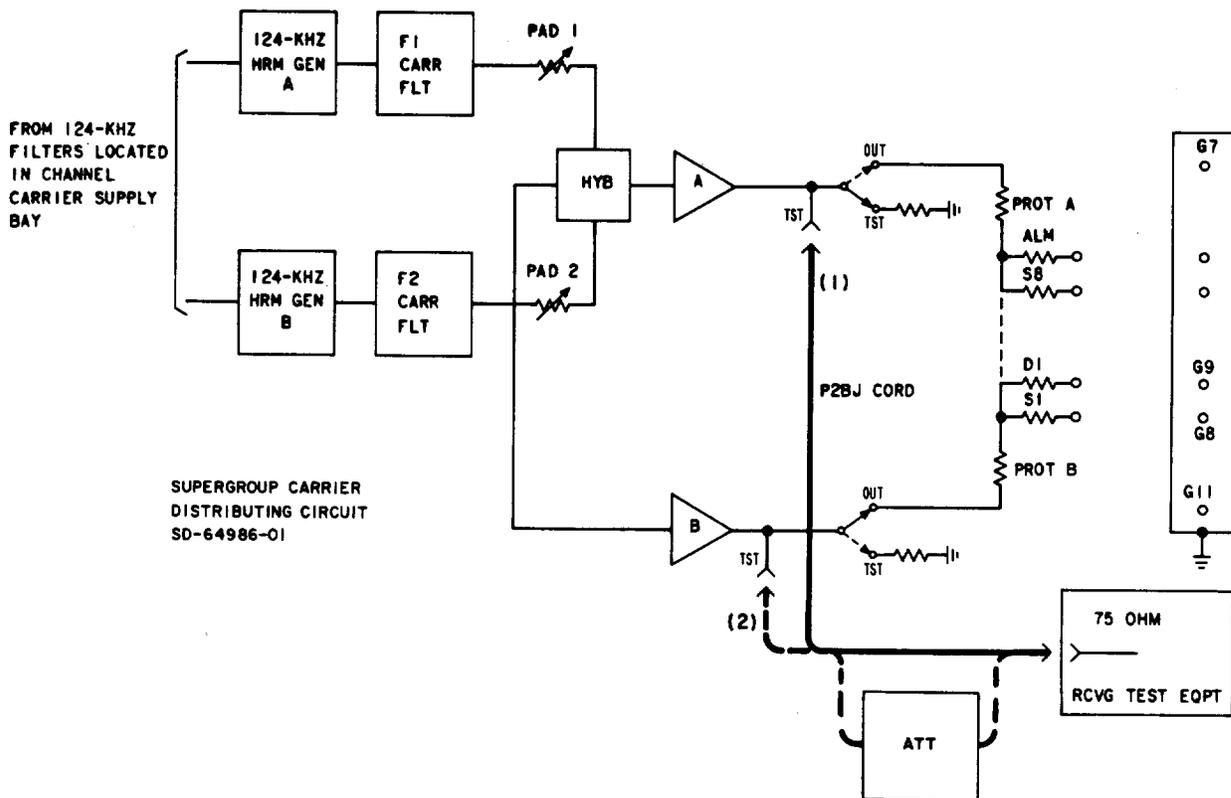

Fig. 2—Measurement of Amplifier Output Power
- 2 Measure and record the supergroup carrier signal power at the TST jack on the front of supergroup carrier amplifier A [patch (1), Fig. 2].
9 Remove patch (1), Fig. 2.
10 Measure and record the supergroup carrier signal power at the TST jack on the front of supergroup carrier amplifier B [patch (2), Fig. 2].
16 Remove patch (2), Fig. 2.
13	Remove patch (1) or (2), Fig. 2.
23	Remove patch (1) or (2), Fig. 2.